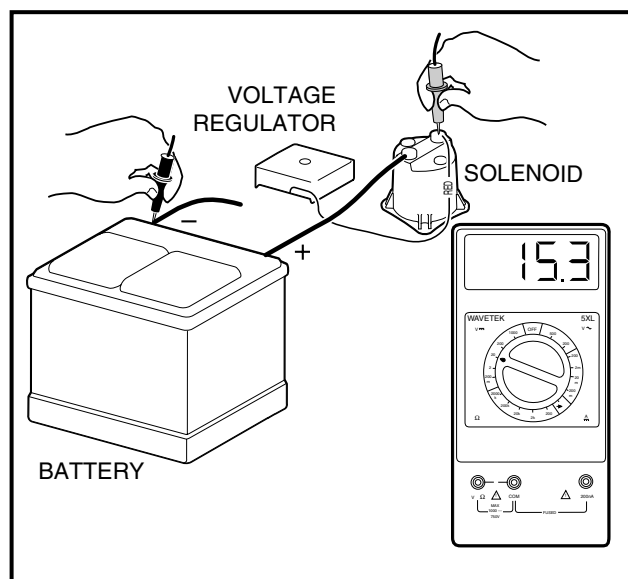

Figure 11a-39 Test Voltage Regulator
2. Disconnect the engine-kill white/black wire at the bullet connector located next to the RPM limiter (**Figure 11a-41, Page 11a-35**).